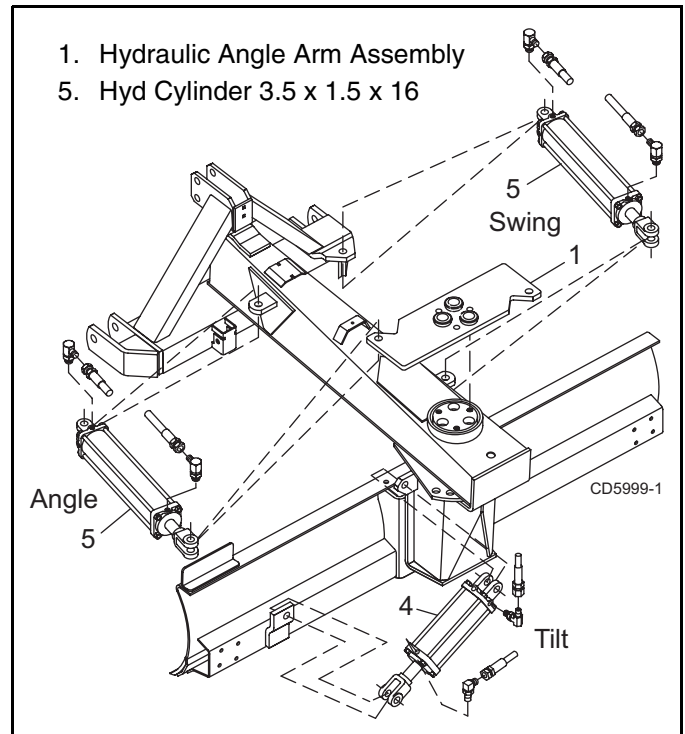

Figure 3. Hydraulic Configuration Assembly
3. **Hydraulic** – Detach the angling cylinder (7) from the hydraulic angle arm (1), Figure 3, and rotate it counter-clockwise to the desired position. Attach angling cylinder (7) to hydraulic angle arm (1).